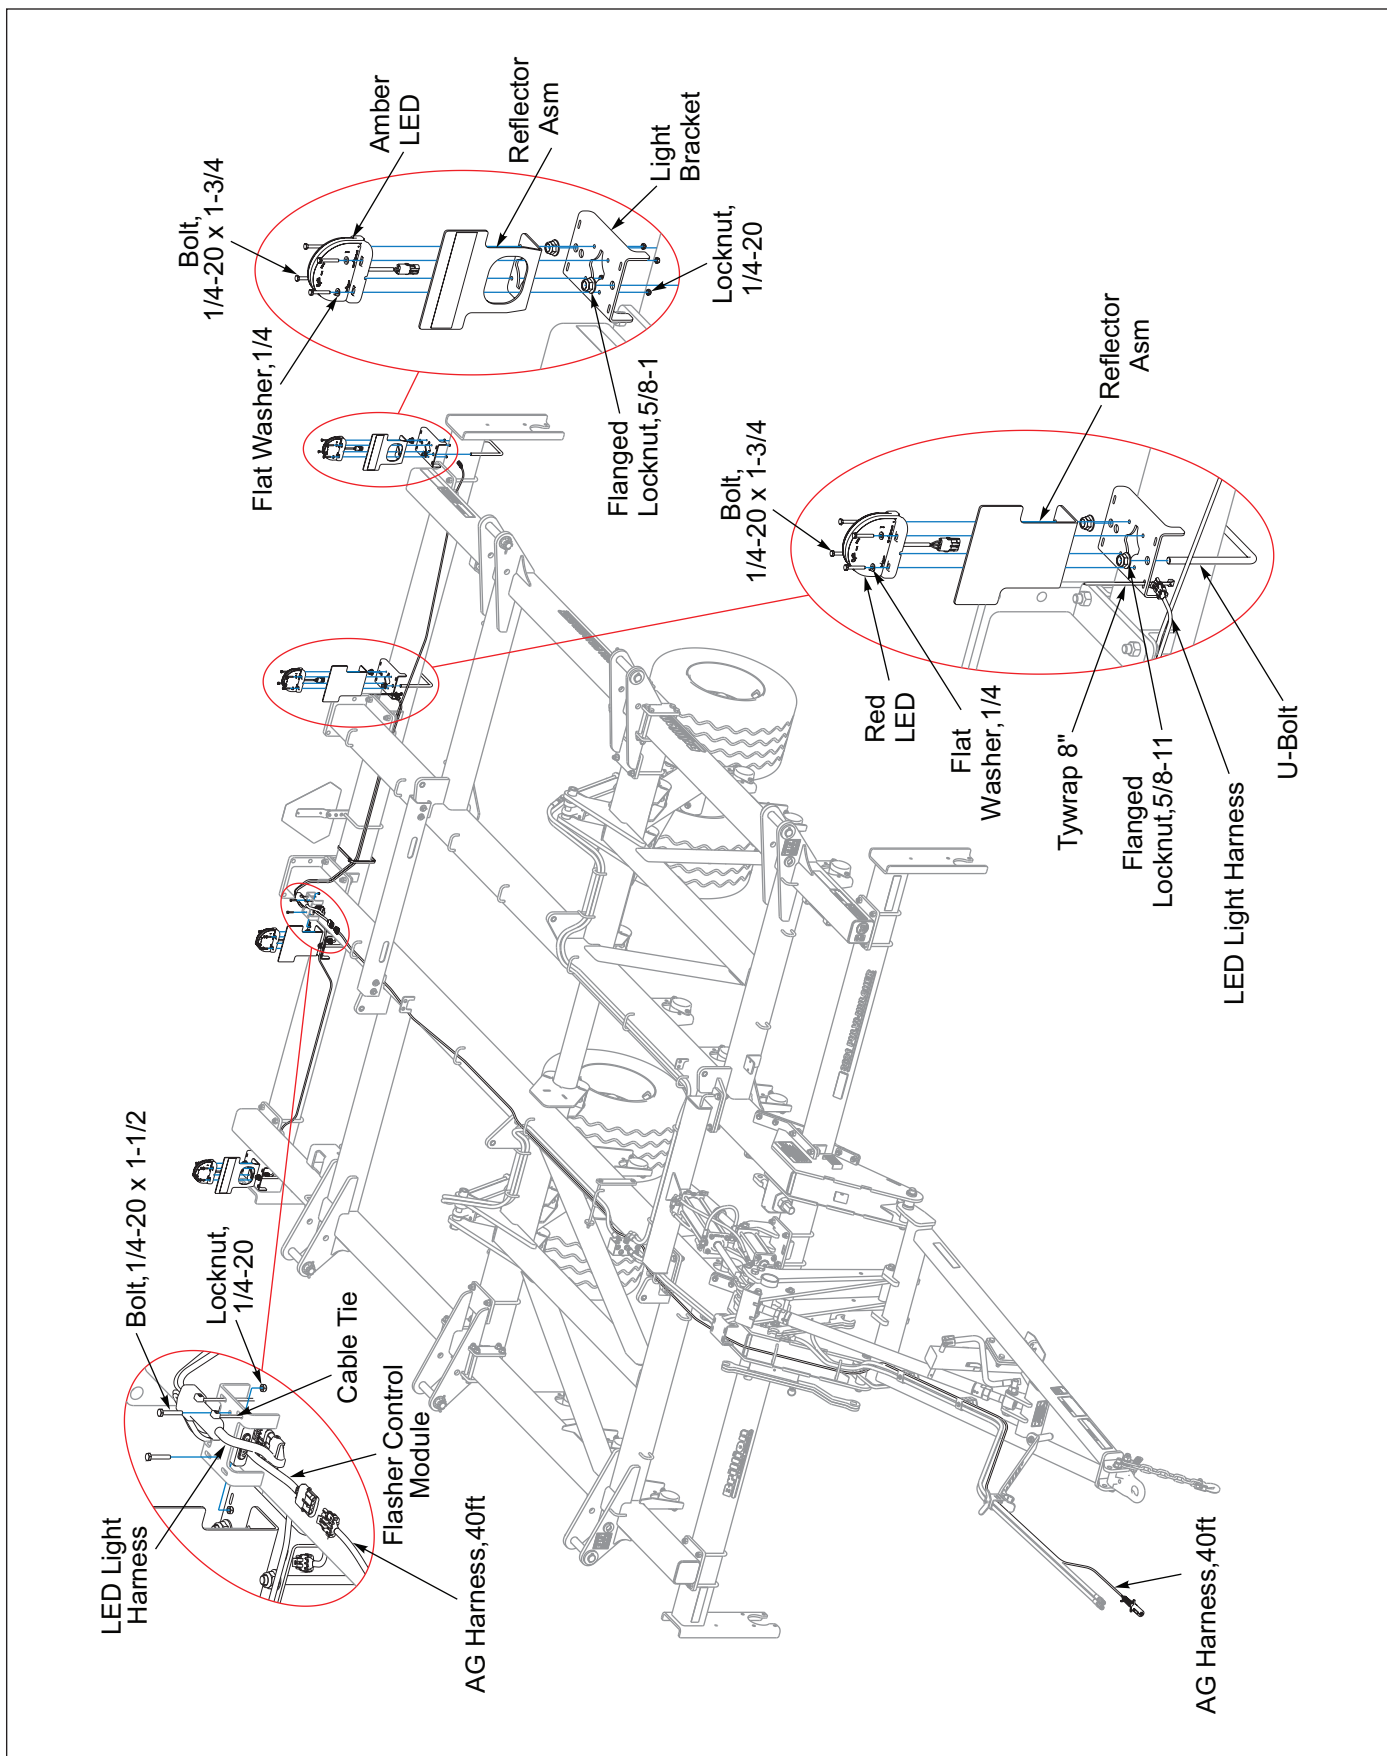

Figure 2-47: Electrical Layout
1. Attach the Light Brackets onto the Rear Roller Frame Tube with 5/8-11 U-Bolts and Flanged Locknuts. See **Figures 2-47 and 2-48.**